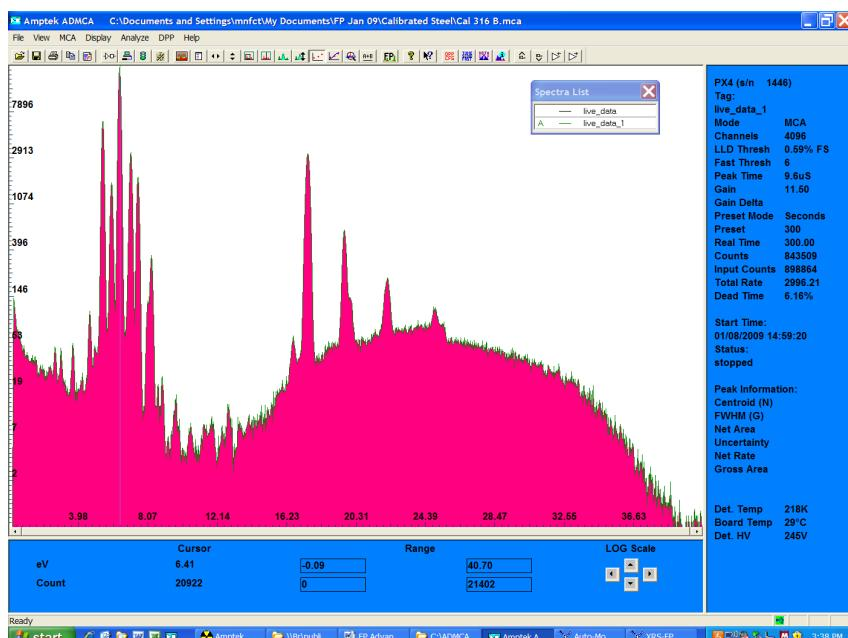

Figure 2. Calibration spectrum acquired from the SS316 standard.
4. Place the standard in the spectrometer and take the calibration spectrum, under conditions identical to those that will be used for later routine sample analysis – except that we recommend taking calibration data for a longer time. Figure 2 shows the calibration spectrum, which was taken for 300 sec.
5. Check the calibration spectrum. Make sure that all of the expected elements are present and look for contaminants. In Figure 2, the Fe peak is largest, as expected for steel. The Cr and Ni peaks are clearly visible nearby. The Mo peaks can be seen at 17.4 and 19.6 keV. Other peaks correspond to known contaminants (e.g. Ag from a shield in the setup, Ar from air), escape peaks, sum peaks, etc. Save the calibration spectrum in ADMCA as a *.mca file and then reopen it in ADMCA.